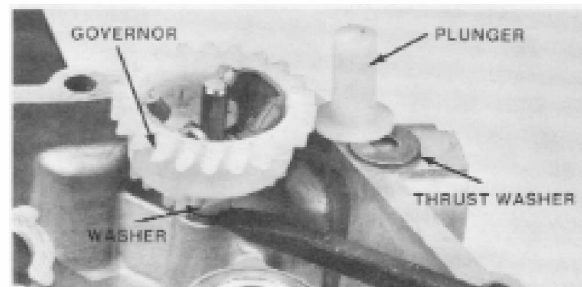

Figure 4-23
1. To disassemble the governor, pry up between the governor and the sump of the engine with a flat bladed screwdriver. See Fig. 4-23. The governor is held on its shaft with a nylon shoulder. There are no retaining rings.
2. Note the position of the two thrust washers. Refer to Fig. 4-23. One washer is located under the plunger and one is located under the governor assembly.